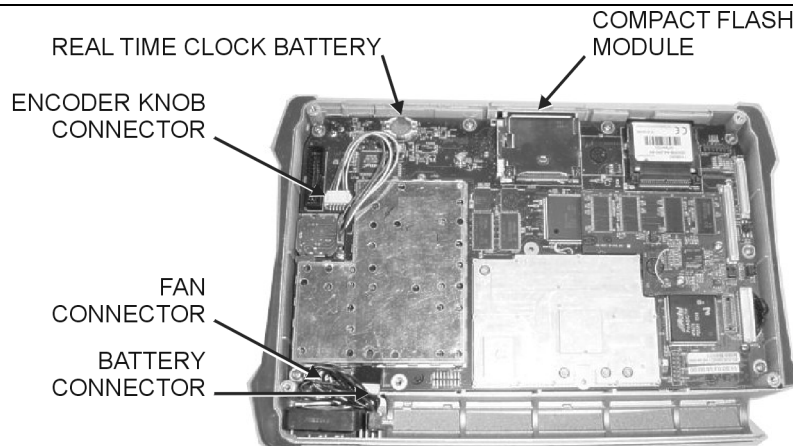

Figure 16. Main PCB Assembly Replacement
5. Lift the bottom edge of the Main PCB assembly and disconnect the battery connector from J1001 on the main PCB (Figure 16).